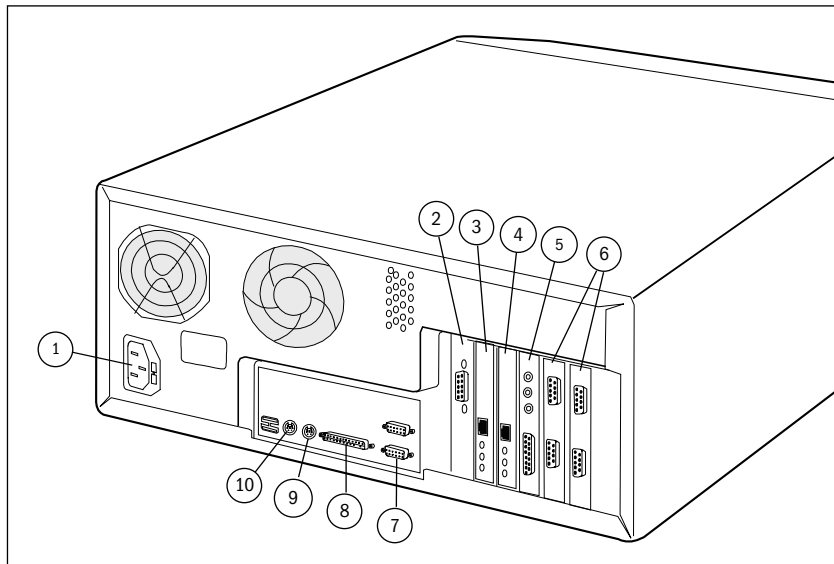

Figure 4-2 Typical Connectors on the Network Computer Rear Panel
- Connect the keyboard cable to the keyboard connector on the rear panel of the Network Computer, see Figure 4-2.
1. Connect the recorder cable to the parallel connector on the rear panel of Network Computer, see Figure 4-2, and to the connector on the recorder's rear panel.